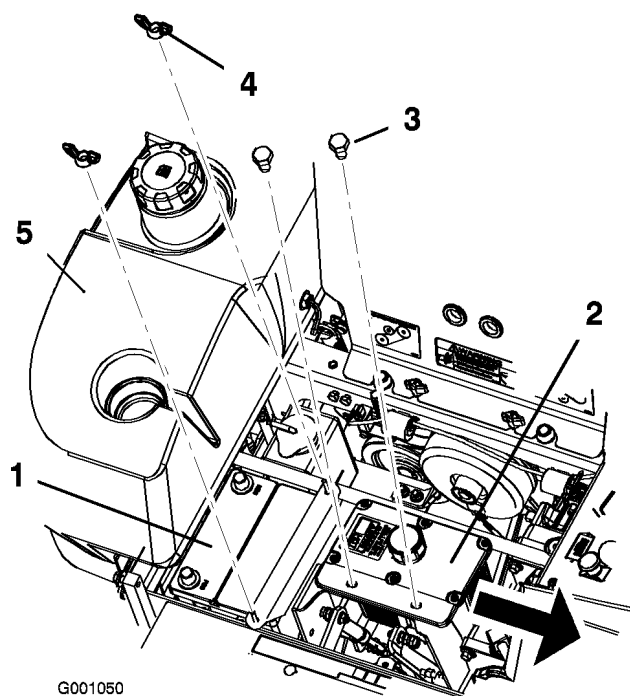

Figure 44
- Remove both wing nuts (1/4 inch) securing the battery clamp (Figure 44).
- Remove the two bolts holding the hydraulic tank in place (Figure 44).
- Secure battery with J-bolts, hold down clamp and 2 washers (1/4 inch), and 2 wing nuts (1/4 inch) (Figure 44).